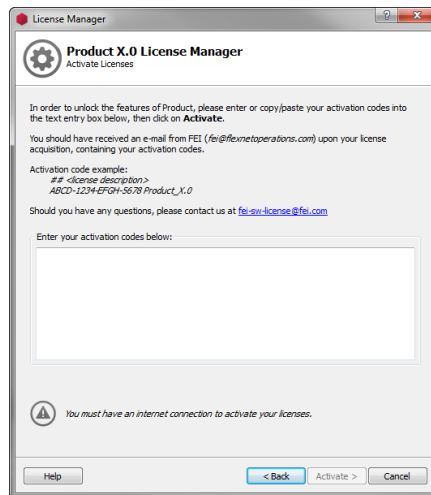

Figure 1.3: License Manager - Node-Locked Activation Wizard
- The license manager wizard is opened and displays the page *Activate Licenses* (see Figure 1.3). Simply copy and paste your activation codes into the provided text field and press *Activate*.